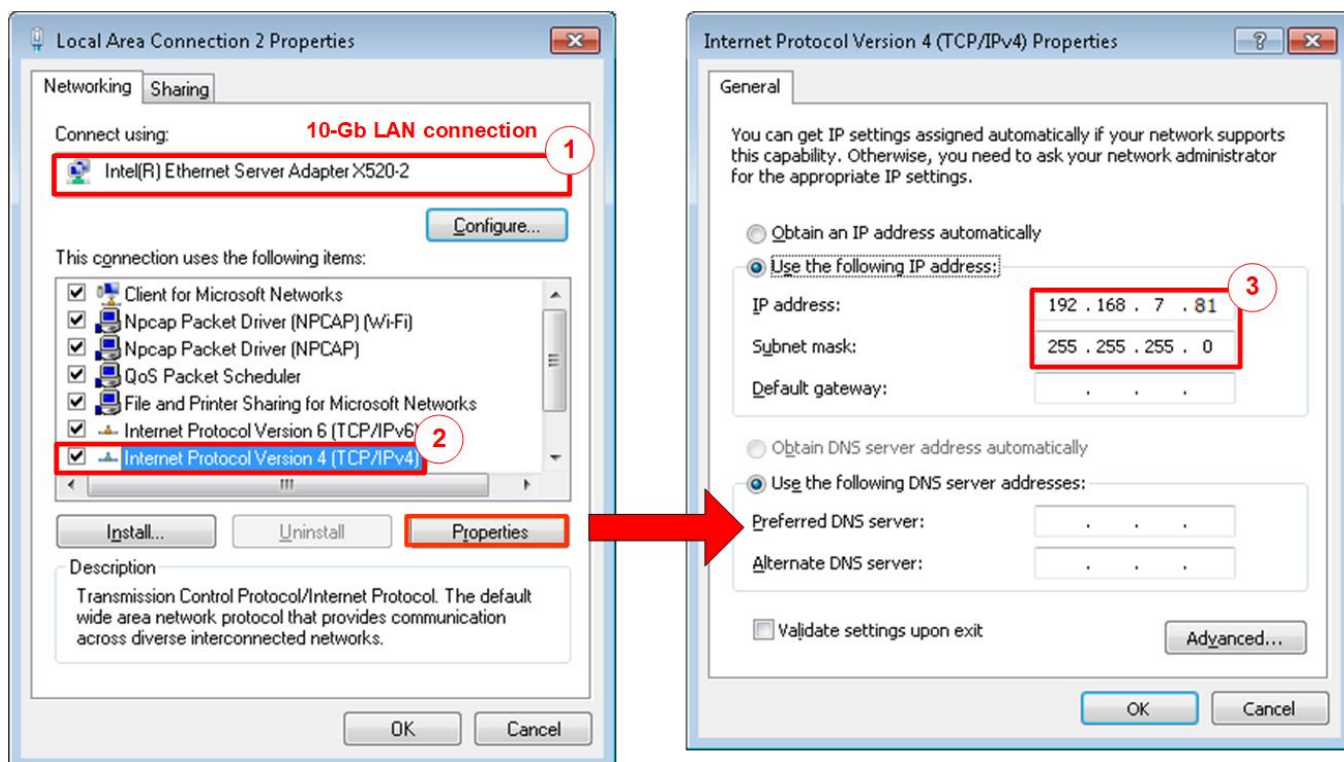

Figure 2-1 Setting IP address for PC
- 1) Open Local Area Connection Properties of 10-Gb connection, as shown in the left window of Figure 2-1.
- 3) Set IP address = 192.168.7.81 and Subnet mask = 255.255.255.0, as shown in the right window of Figure 2-1.